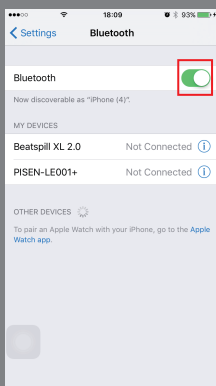

Fig 1
2. Turn on your phone’s “bluetooth” (Fig 1)